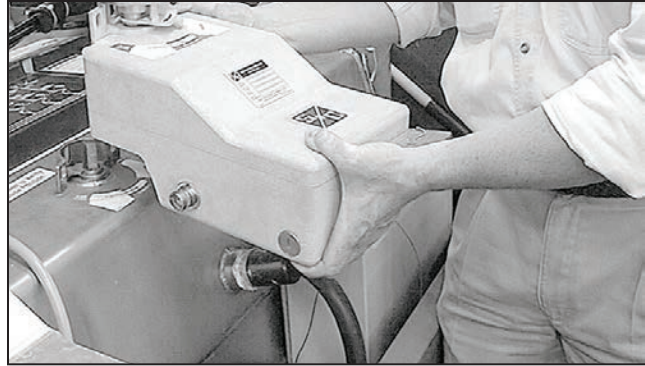
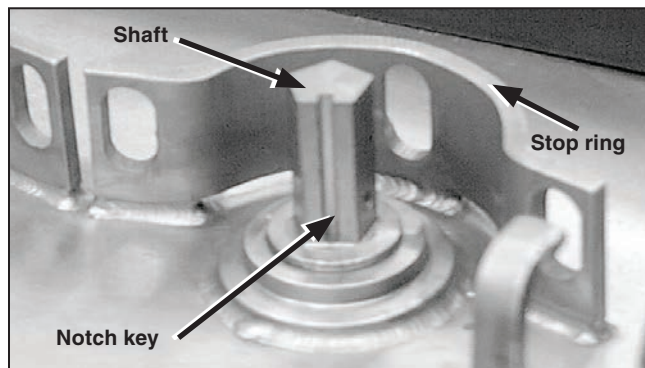

Figure 64. Place the motor operator over the operating shaft on the gear.
Figure 65. Line up the operator key with the shaft notch key.
- STEP 1.** Place each motor operator over the operating shaft on the gear. See Figure 64. **Note:** It may be necessary to manually rotate the motor operator shaft (by twisting the operating disk) to line up the operator key with the shaft notch key. See Figure 65.